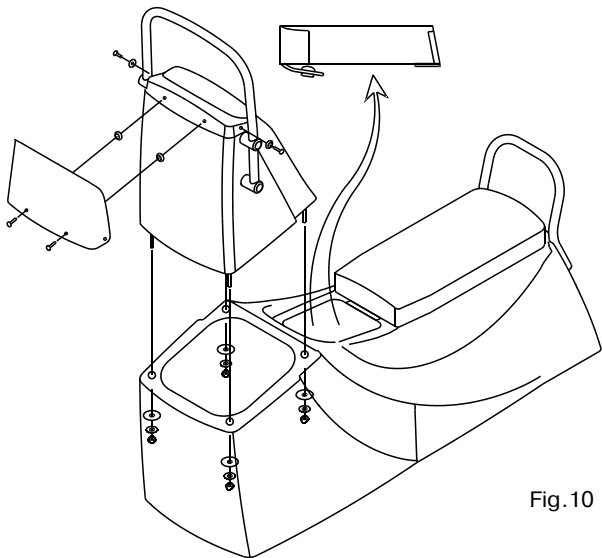

Fig. 10
1. Take off bow part of the seat from the console (see. Fig.10). The bow seat is fixed by the press-button and the "bur".
4. Turn the handrail to the vertical position (See Fig.10, 12). Align the holes in the handrail bearings with the holes in the console body (upper part) 2, fix the handrail 3 from the inner part with the help of bolts M8x30 (pipe bearing) and M8x50 (end bearing), washers 8x24 and arrester washers. Tighten all three bolts.